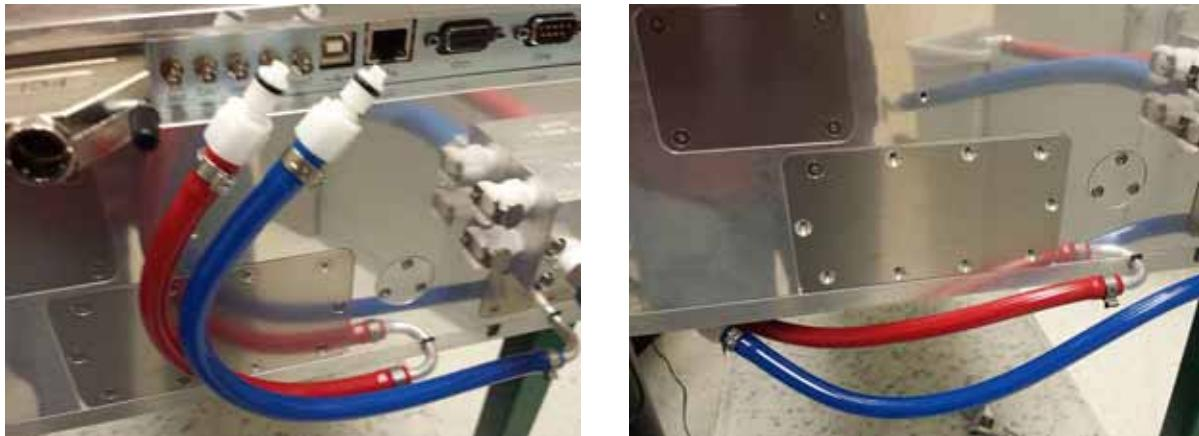

Figure 7-2. Clearing the Desiccant Access Plate
3. Note which hose plugs into which connector, then unplug the hoses in front of the desiccant access plate and carefully move them aside (see Figure 7-2).